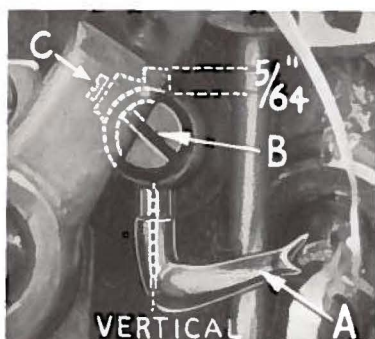

Fig. 8
Insert spreader (A, Fig. 8) in its holder. Screw (B) holds the spreader in its holder and permits spreader to be pushed in or out, or turned around its shank. Screw (C) on the collar holds spreader holder in the shaft, and allows the holder to be rotated or adjusted laterally.
Preliminary Setting: When spreader is at the right end of its stroke, spreader holder should be set to position the spreader shank about vertical (Fig. 8). The top end of the spreader shank should extend approximately $\frac{5}{64}$ inch above holder (Fig. 8).